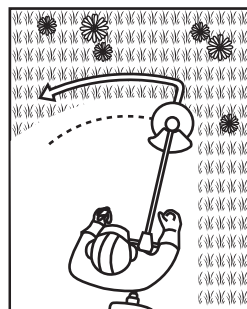

Fig. 22
5. Move the product with a slow regular arc from left to right before moving it back to the starting position before trimming the next area (Fig. 22).